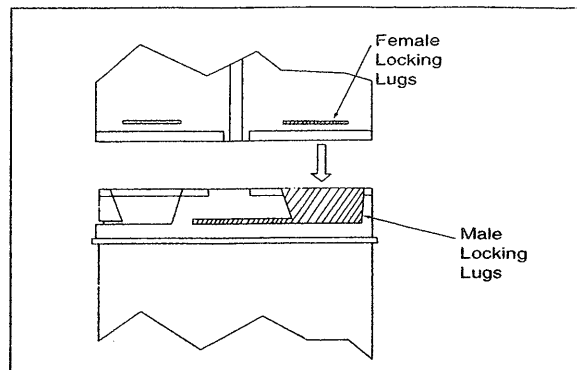

Figure 6
The Dura-Vent GS is unitized and twist-locks together. For the twist-lock procedure, consult Figure 6 and do the following:
(1) Four indentations, located on the female ends of pipes and fittings, are designed to slide straight onto the male ends of adjacent pipes and fittings, by orienting the four pipe indentations so they match and slide into the four entry slots on the male ends (Figure 6).